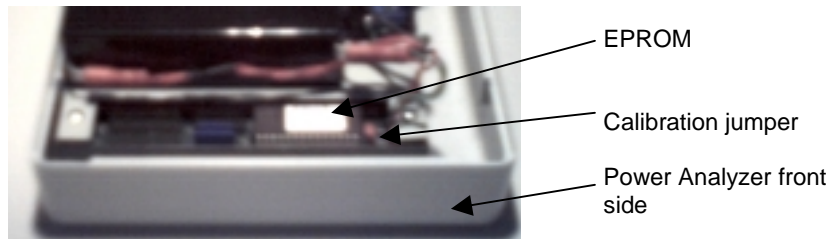

Figure 8.1 Location of EPROM and Calibration Jumper
- STEP 4: Remove the red calibration jumper using a pair of pincers or a pair of pliers (Figure 8.1).